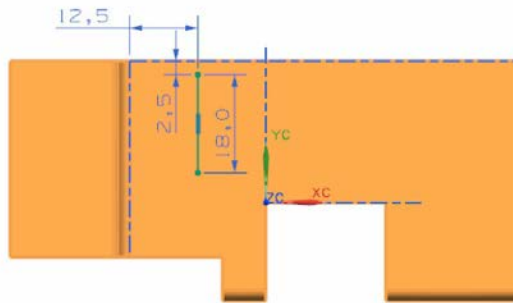

Figure 14-115 Dimensions to position the louver
- Create the louvers, refer to Figures 14-115 and 14-118.
3. Draw the profile of the louver and add the required dimensions, as shown in Figure 14-115. Exit the sketching environment; the preview of the louver is displayed.